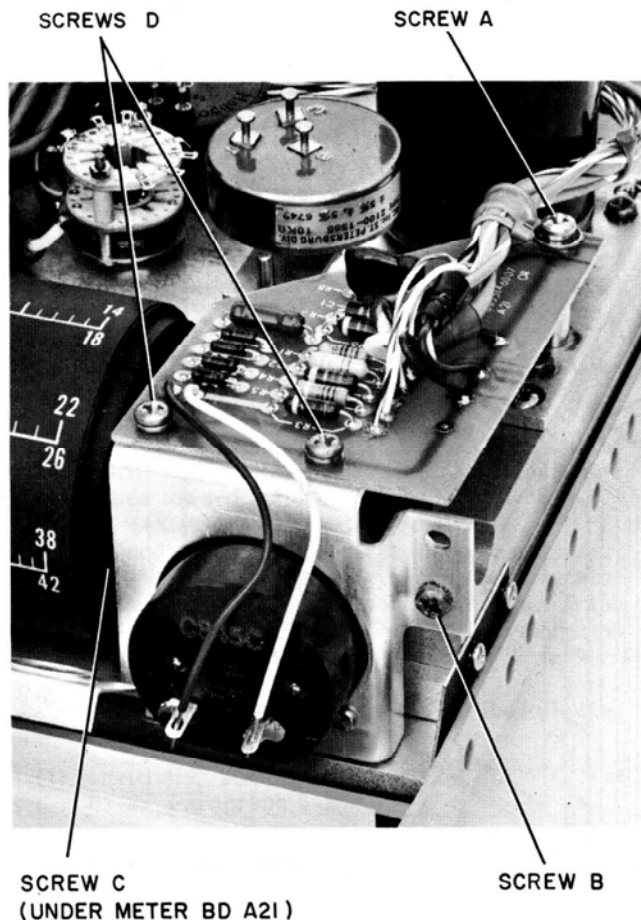

Figure 5-34. Portion of Rear of Front Panel, as Viewed from Top of Panel
5-232. **HARDWARE.** Screws removed or loosened in the following procedure are identified in Figure 5-34 or Figure 6-8, and described as follows:
a. Screw A, 6-32 x 1-1/4 RH w/split washer, flat washer (Figure 5-34).
5-233. **PROCEDURE.** The frequency scale drum is held in place by a large spring at one end (item 18, Figure 6-8) and a long screw at the other. This long screw (Screw C, Figure 5-34) is accessible when Meter Board Assembly A21 is removed from the drum support block.
a. Remove Screws A and B (see Figure 5-34), and swing Meter Board Assembly A21 and Meter M1 out; move them as one assembly, do not touch Screws D.
- b. To expose the right-end bearing and lock nut, remove Screws A and B (Figure 5-34) which hold Meter Board Assembly A21 in place; if there are spacer washers, be sure to remove them from the instrument with the screws. Lift the A21 board out of the way.